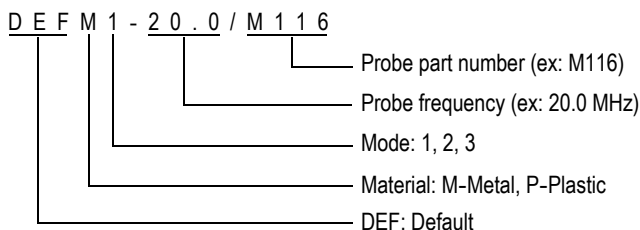

Figure 5-3 Selecting a default single element transducer setup
- c) In the **DEFAULT** screen for the type of probe that you are using (see the example shown in Figure 5-3 on page 71), in the list of available default setups, highlight the setup for the transducer that you are using.